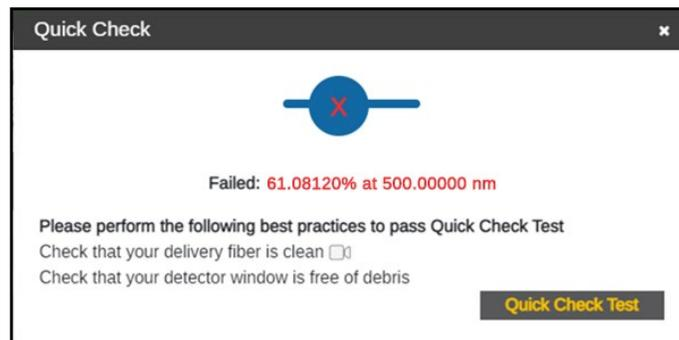

Figure 23. Failed Quick Check.
4. Once completed, the results will display the disposition of the SoloVPE System, which can be Fail or Pass (see Figures 23 and 24). The user may add comments that will be recorded in the Validation Check Log.